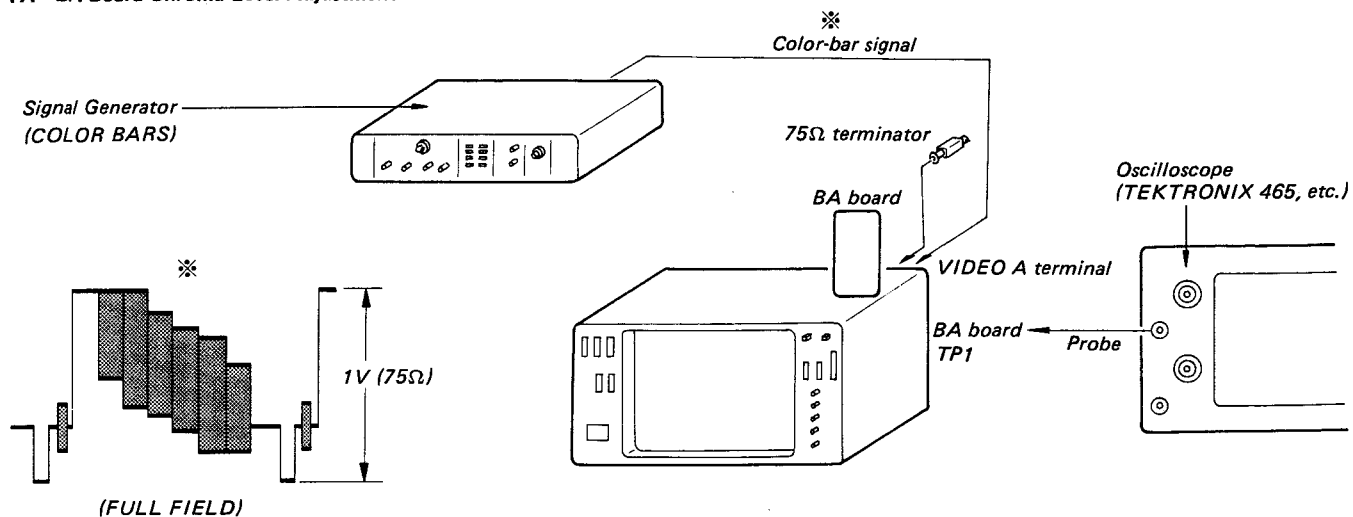

Fig. 5-86.
1. Complete the connections as shown in Fig. 5-86.